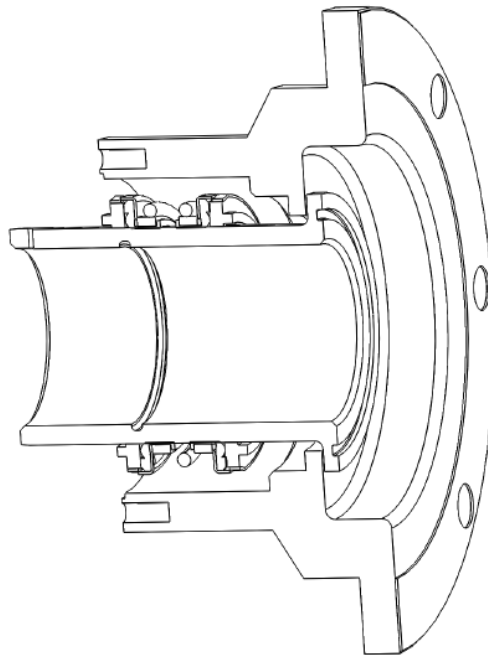
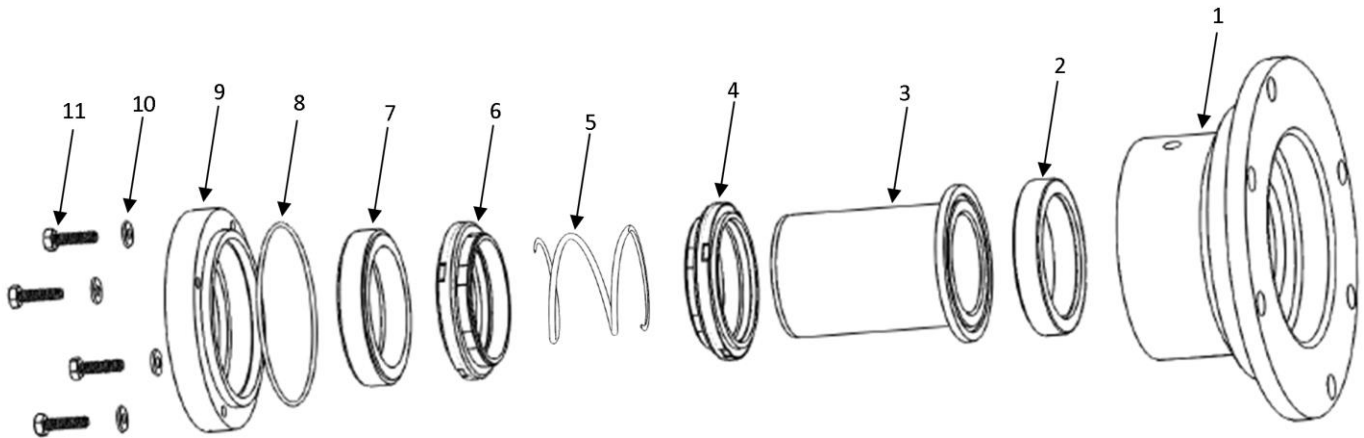

Figure 10: Double Seal
Figure 11: Double seal parts list
***Refer to Figure 11 for part numbers referenced within double seal assembly instructions.**
The double seal-supplied pumps require sub-assembly of the stuffing box prior to installation on the pump. Below are the steps required (Refer to Figure 10 and Figure 11):